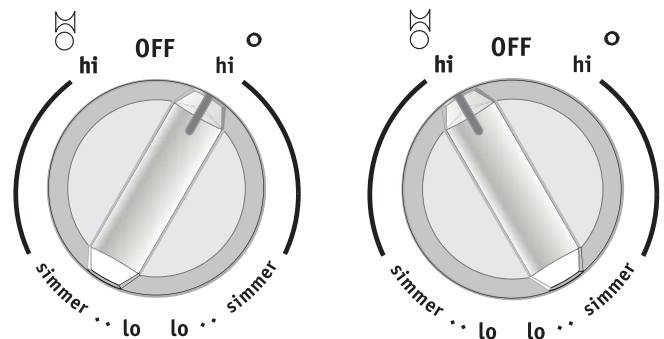

Figure 12: Front portion control knob (L) and control knob for rectangular shaped cookware (R)
2. Push in and turn the control knob as shown in Figure 12 to heat the front portion of the Bridge element for normal shaped cookware or for larger or rectangular shaped cookware. Turn the knob to adjust the setting if needed. Start most cooking operations on a higher setting and then turn to a lower setting to finish cooking. Each surface element provides a constant amount of heat at each setting. A glowing red surface heating area extending beyond the bottom edge of the cookware indicates the cookware is too small. Please note that not all cookware will fit the Bridge element correctly.